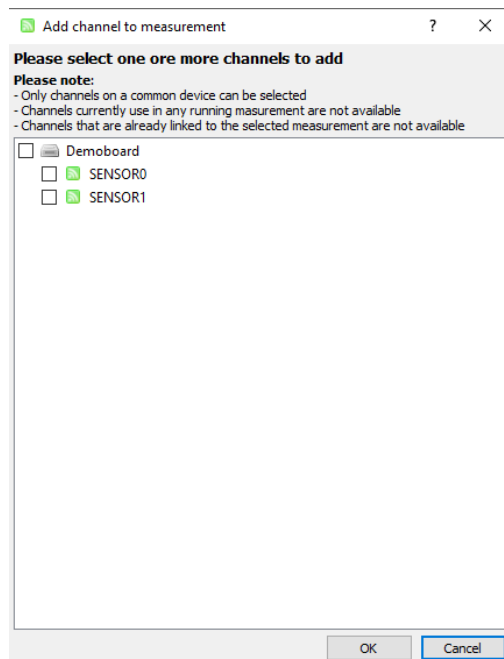

Figure 15: Channel selection for measurements
2. A pop-up window (Figure 15) appears to choose the channel (sensor) from and with which previously selected measurement to be carried out. Select the sensor by clicking on check box and click "ok" button.